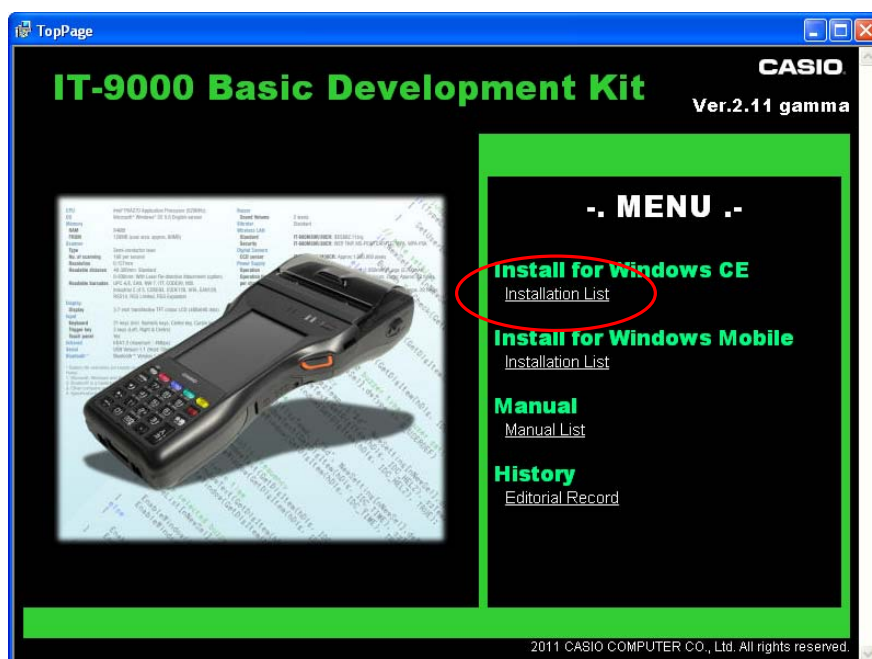

Figure 3.1 Version number in the figure may differ from that of your CD.
2. Click **Installation List** in Figure 3.1. The installation screen appears.